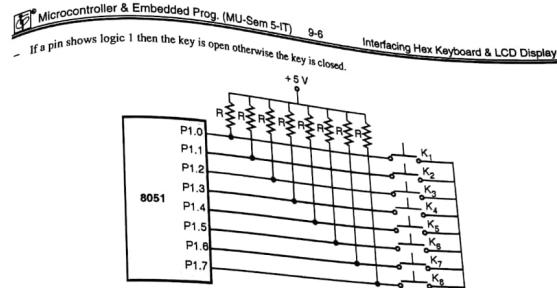

Fig. P. 9.2.1
- Fig. P. 9.2.1 shows how a simple keyboard is interfaced to microcontroller 8051.
- As shown in Fig. P. 9.2.1 eight keys are connected to port 1 pins. Each port pin gives the status of key that is connected to that pin.